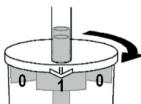

Abb. 3
4. To pick up the first polyp, rotate the vessel until the arrow points to the number "1" (**Fig. 3**).